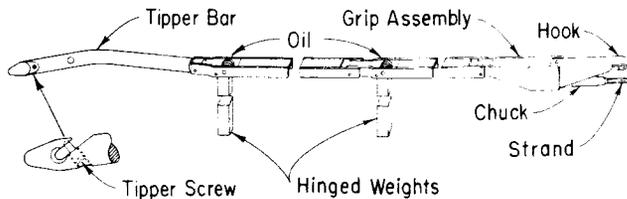

Fig. 1 — D Cable Leader
2.01 D Cable Leader: The D Cable Leader shown in Fig. 1 consists of a tipper assembly, a grip assembly, and six hinged weights which normally hang vertically to resist cable and strand rotation. The weights are arranged to fold into the supporting framework when passing over a roller at a pole. The grip assembly is for connection to the cable and strand, and accommodates a 10M chuck or through the use of a chuck adapter, a 6M chuck, for gripping the strand. The forward end of the tipper has a hook with a screw keeper for connection to the pulling line.
4.01 Replacement parts available for the D Cable Leader shown in Fig. 1 are: